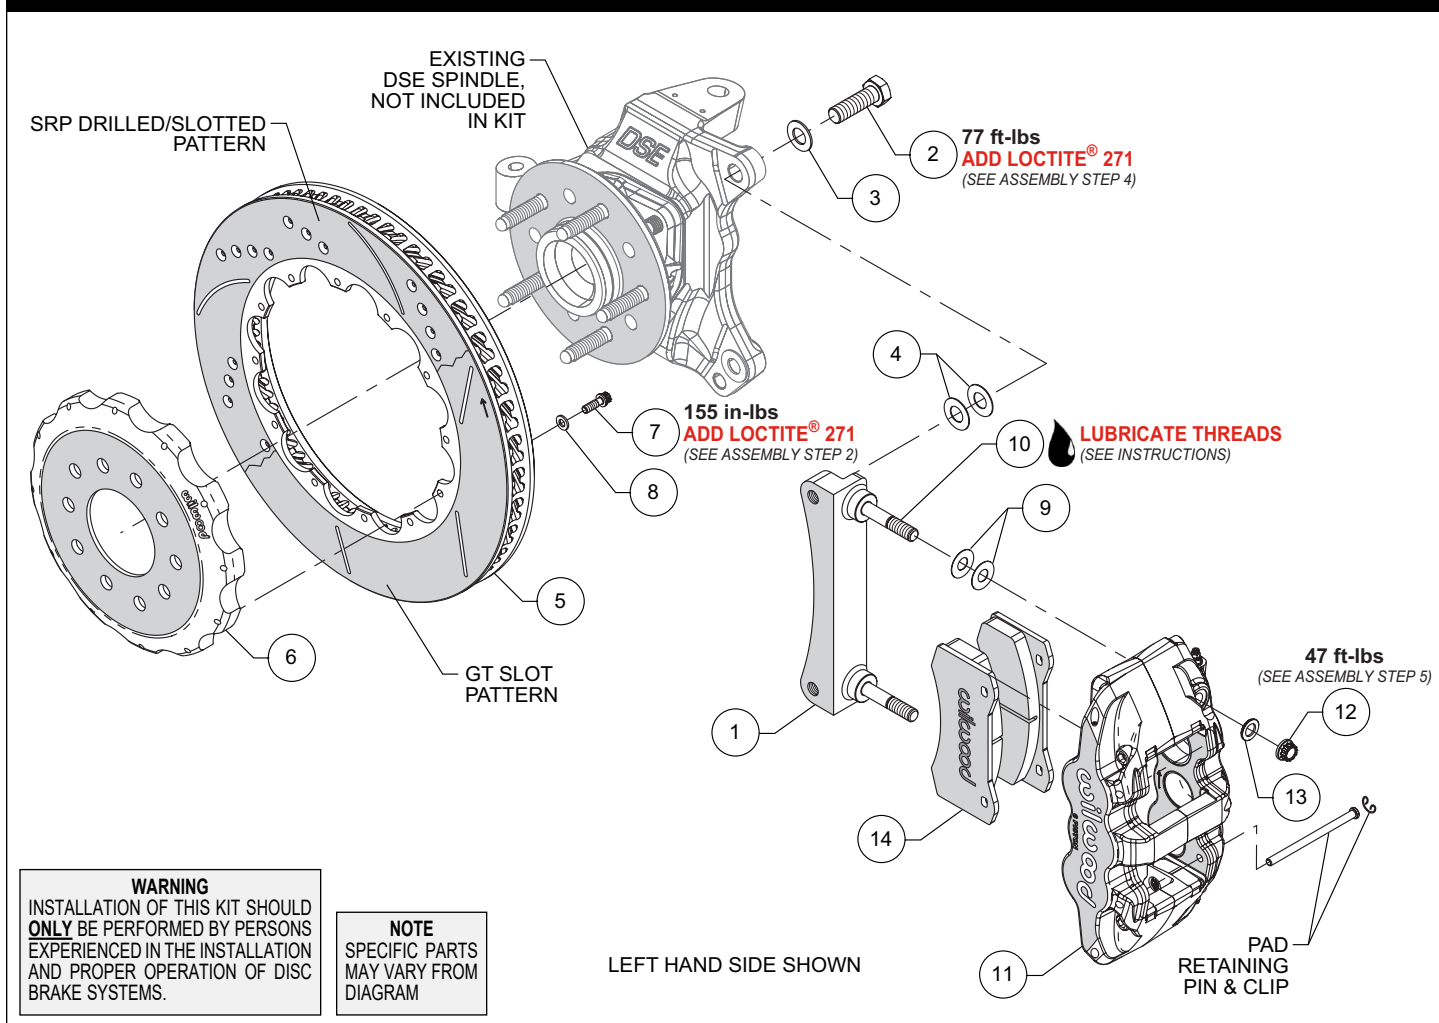
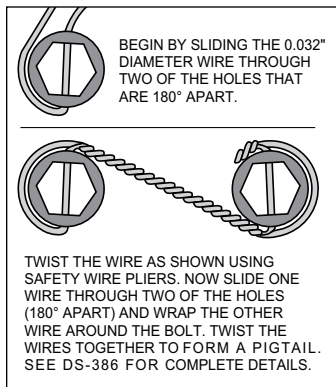

Figure 1. Typical Installation Configuration
Figure 3.
NOTE: Numbers in parenthesis refer to the parts list and Figure 1 on the preceding pages.
STEP 1 The caliper mount bracket (1) should initially be installed with clean, dry threads on the mounting bolts. Orient the bracket as shown in Figure 1 and Photo 1, and install using bolts (2) and washers (3). Initially place two .029 thick shims (4) on each
bolt between the bracket and upright, Figure 1 and Photo 2. Temporarily tighten the mounting bolts. **NOTE:** The bracket must fit squarely against the mount bosses on the upright. Inspect for interference from casting irregularities, machining ridges, burrs, etc. Later, after the caliper alignment has been checked, the mount bolts will be secured using red Loctite® 271.
STEP 2 Orient the rotor (5) and the hat (6) as shown in Figure 1 and Photo 3. Attach the hat to the rotor using bolts (7) and washers (8). Using an alternating sequence, apply red Loctite® 271 to the threads, and torque to value shown in Figure 1. For an added measure of security, the bolts may be safety wired using standard 0.032 inch diameter stainless steel safety wire as shown in Figure 3. Please refer to Wilwood's data sheet DS-386 (available at www.wilwood.com/Pdf/DataSheets/ds386.pdf) for complete safety wire installation instructions.
STEP 4 NOTE: This kit contains distinct right and left hand calipers that must be mounted in a specific direction, as described below. Lubricate the caliper mounting studs (10) with lightweight oil. Initially place two .016" thick shims (9) on each stud as shown in Figure 1 and Photo 5. Mount the caliper (11) onto the bracket (1) using lock nuts (12) and washers (13), Figure 1. Ensure that the caliper is mounted so that the largest pistons are at the rotor exit end of the caliper, in relation to the direction of rotor rotation. Temporarily tighten the lock nuts and view the rotor through the top
opening of the caliper. The rotor should be centered in the caliper, Photo 6. If not, adjust by adding or subtracting shims (4) between the bracket and the upright. Always use the same amount of shims on each of the two mounting bolts (2). Once the caliper alignment is correct, remove the bracket mounting bolts (2) one at a time, apply red *Loctite*® 271 to the threads, and torque to value shown in Figure 1.
STEP 5 Remove the caliper (11), then remove the two pad retaining pins from the caliper by carefully popping out the pin retaining clips and sliding out the pins. Insert the brake pads (14) into the caliper from the bottom with the friction material facing the rotor, Figure 1 and Photo 7. Secure the brake pads in place with the pad retaining pins and clips, Photo 8. Reinstall the caliper onto the pad retaining bracket and temporarily tighten the lock nuts. Check that the top of the brake pad is flush with the outside diameter of the rotor, Photo 9. If not, adjust by adding or subtracting shims (9) between the caliper and the bracket. After the caliper pad height is set, torque the caliper lock nuts (12) to value shown in Figure 1.